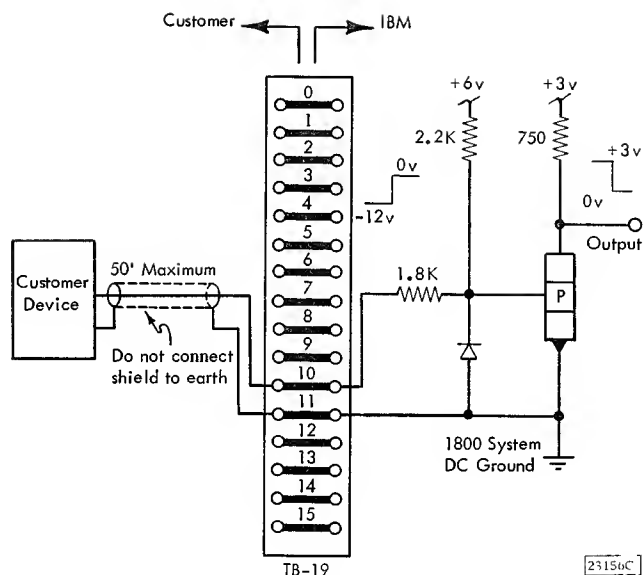

Figure 30. Digital and Analog Output "Sync" Signal, Terminal and Circuit Schematic (simplified)
6. Terminal and Circuit Description: Figure 30.